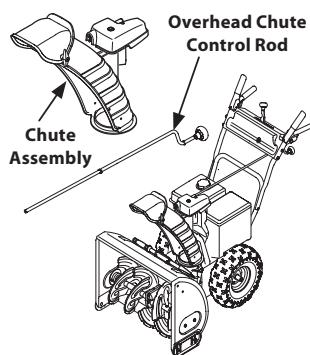

**Figure 2-9**
11. Insert a carriage screw (a) from the outside through a handle tab (b), the upper (c) and lower handles (d), a saddle washer (e) and into the wing knob (f). Repeat on the other side. Tighten the wing knobs (f) on each side of the handle. Refer to Figure 2-9.